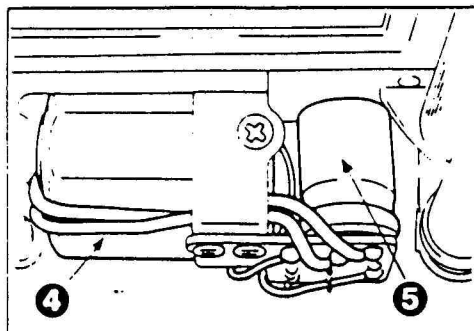

Fig.2
- ④ Does the moving coil short? (See Fig. 2.)